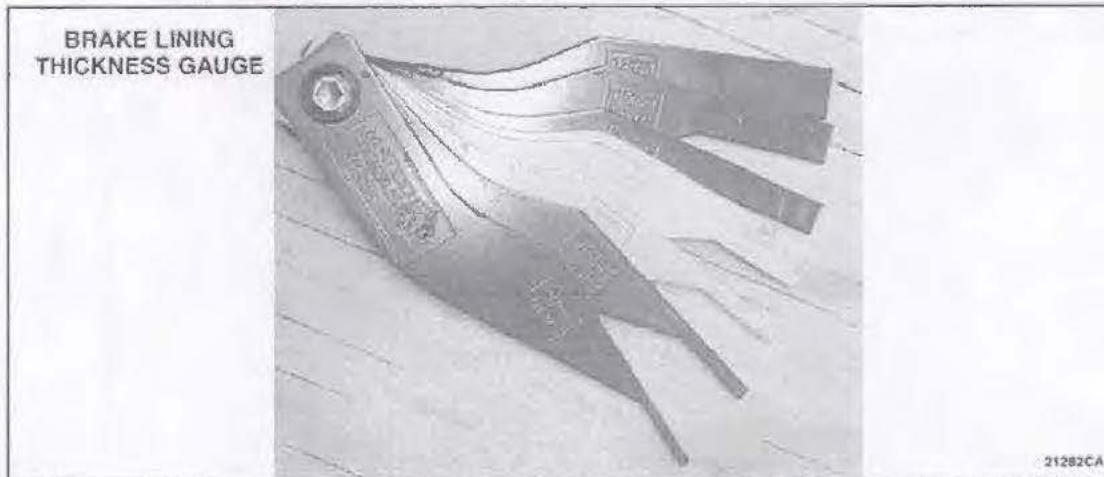

FIGURE 4a
5. Using a 3 mm (0.118 in) brake lining thickness gauge (Matco Tools part number BG842 or equivalent), attempt to insert in the gap of the Hydromax Pressure Line to hydraulic booster jumper line to determine if the gap is larger than 3 mm (0.118 in). Can you insert a 3mm gauge into the gap? Ensure you are using the 3 mm (0.118 in) part of the gauge and not the tool thickness. See Figures 4a and 4b.